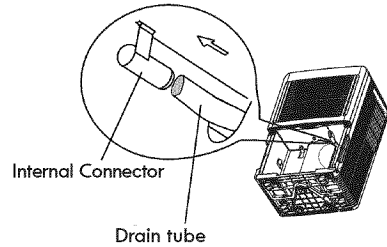

Figure 9
- Remove bucket, and insert the drain tube through the drain outlet on the back of the unit. Securely press the end of the tube onto the internal connector on the inside of the unit (See Fig. 9).